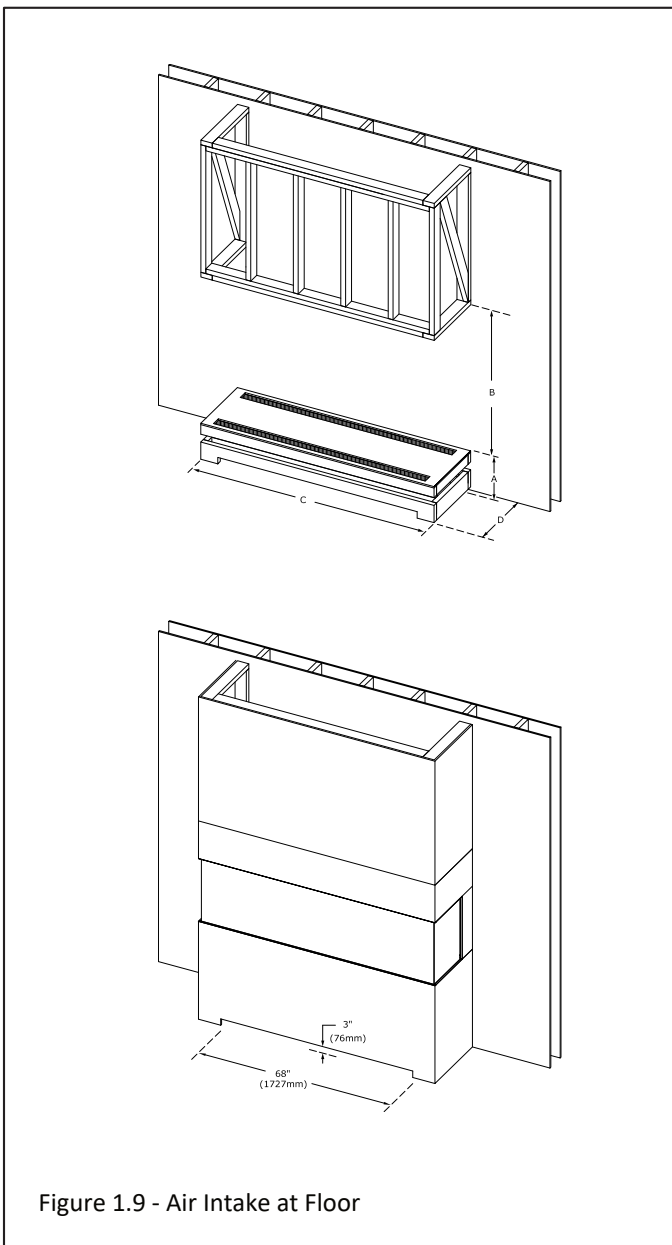
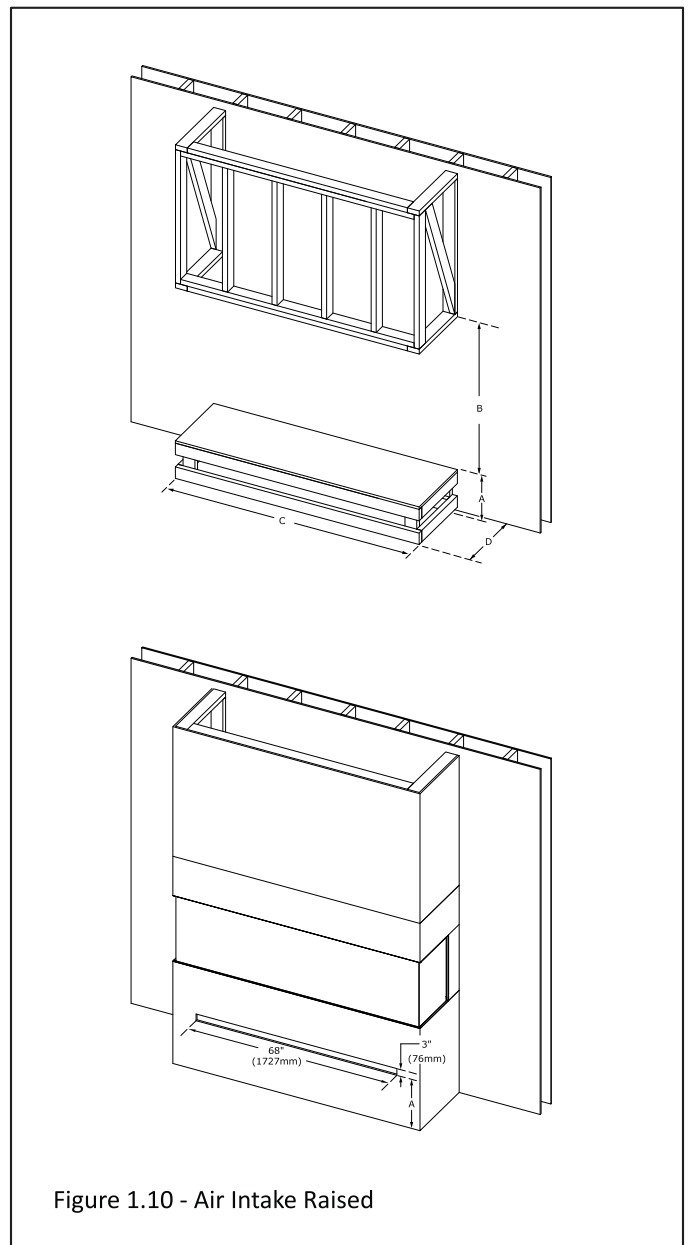
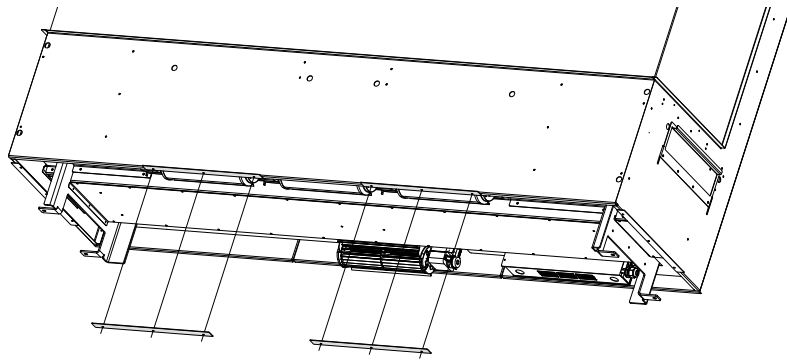

Figure 1.9 - Air Intake at Floor
Figure 1.10 - Air Intake Raised
Figure 1.11 - Finishing Bracket Removal
- If you want the air intake opening to be at the floor you can follow the illustrations in Figure 1.9, Figure 1.11, and Figure 1.12. See more information on the following page.
- If you want to elevate the fireplace and have the air intake opening elevated off the floor as well you can follow the illustration in Figure 1.10. The air intake opening moves with the fireplace where air intake opening starts with the base of the fireplace. Determine the height of the air intake opening you want and build the platform height according to that. The platform should be constructed with a solid plywood base.
- In Figures 1.9 and 1.10 see the following information. Dimension A is the height from the floor you want your air intake opening to start. The finished platform will be this height. Dimension B is the framed height based on your KZK or Vented Cavity selection. Dimension C is the width of the framed opening. Dimension D is the depth of the framed opening. The bottom image in Figure 1.10 shows a 3" (76mm) air intake opening elevated off the floor.
Requirement #1 -The fireplace comes with two finishing edge brackets preinstalled at the bottom of the fireplace for the air intake opening. Since you are moving the air intake opening to a position lower than the fireplace you will have to remove the two bottom finishing edge brackets. Each bracket is held on with (2) sheet metal screws. Once removed you can discard. See Figure 1.11.
We have an option where you can visually hide the air intake. You would install an overhang over the air intake opening. A way to achieve this would be to create a floating hearth. Depending on your desired height of the fireplace, the platform may raise the air intake opening higher than you want. Follow the requirements in Section 1.7 (Specifically Figure 1.11 and 1.12) for an air intake raised off the floor to meet the requirements in this section.